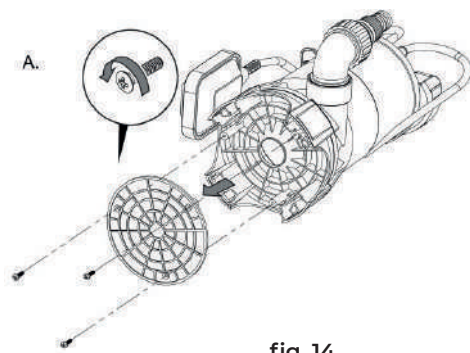

fig. 14
- Disassemble the cover panel at the bottom of the pump in order to access the air intake opening (5). (see fig. 14)